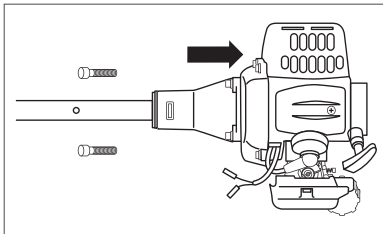

fig. 4
4. Install the rod assembly to the engine using four screws (Fig. 4). In this case, the output shaft of the gearbox and the gas tank should be located on one side.